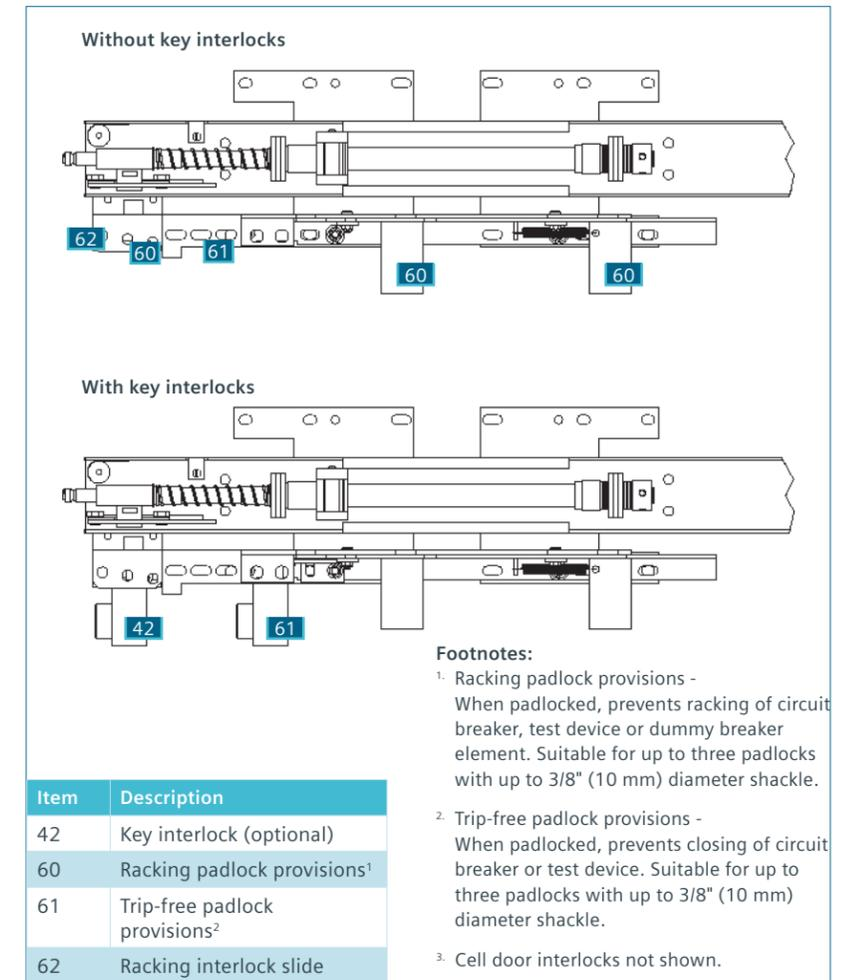

Figure 45: Racking mechanism and interlocks³
When inserting a circuit breaker into a cell, be sure that the racking mechanism is in the DISCONNECT position as shown in Figure 45: Racking mechanism shown in DISCONNECT position. In this position, the racking position indicator should show the letter "D" for DISCONNECT position.
The closed circuit breaker racking interlock is designed to prevent a circuit breaker from being racked from TEST to CONNECT and vice-versa with the primary contacts closed. Only an OPEN circuit breaker is to be moved between these positions (refer to Figure 45: Racking mechanism and interlocks on page 81).
The trip-free interlock slide has angle-shaped members (refer to Figure 45: Racking mechanism and interlocks on page 81) that project from the right side of the racking mechanism and engage an interlock member from the circuit breaker. The circuit breaker interlock extends down to prevent movement of the trip-free interlock slide with the circuit breaker closed. When engaged, the racking screw is not accessible to the racking crank until the circuit breaker has been opened.
The racking interlock slide (refer to Figure 45: Racking mechanism and interlocks, item 62) has provisions for three padlocks to prevent engagement of the racking crank to the racking screw. This allows locking of the circuit breaker in DISCONNECT, TEST or CONNECT positions. Key interlocking (refer to Figure 45: Racking mechanism and interlocks, footnote 3) can be provided for racking sequence interlocking of dummy circuit breakers, etc. When locked in DISCONNECT position, the circuit breaker or dummy circuit breaker can be removed for servicing.
In order to lock the circuit breaker trip-free in either TEST or CONNECT positions, the circuit breaker must be opened and the trip-free interlock slide assembly pushed forward to lift the trip-free roller on the circuit breaker. This position permits the use of a key interlock (refer to Figure 45: Racking mechanism and interlocks, note Footnote 2) or padlocks (up to three) to maintain the mechanism in trip-free position. The circuit breaker can be removed for servicing while interlocked in the trip-free position.